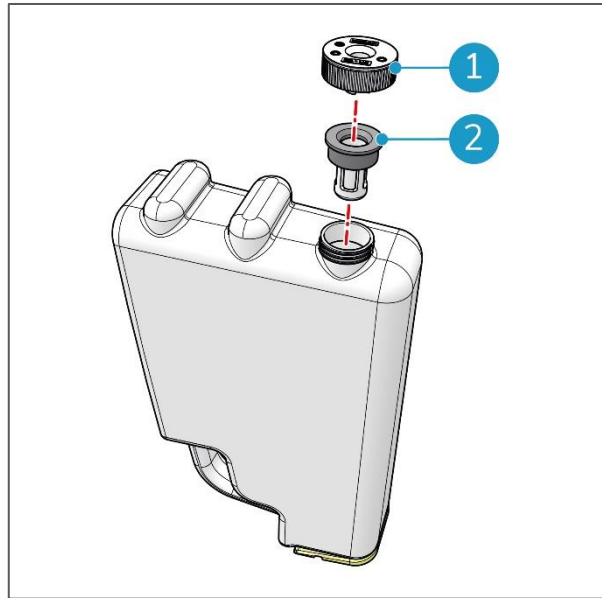

Figure 61
5. Unscrew the white cap (Figure 61, pos 1), it holds the detergent filter (Figure 61, pos 2) in place.
7. Place the filter in the cap (Figure 61).
8. Screw the cap into the bottom of the detergent tank (Figure 61) and make sure it seals tight.